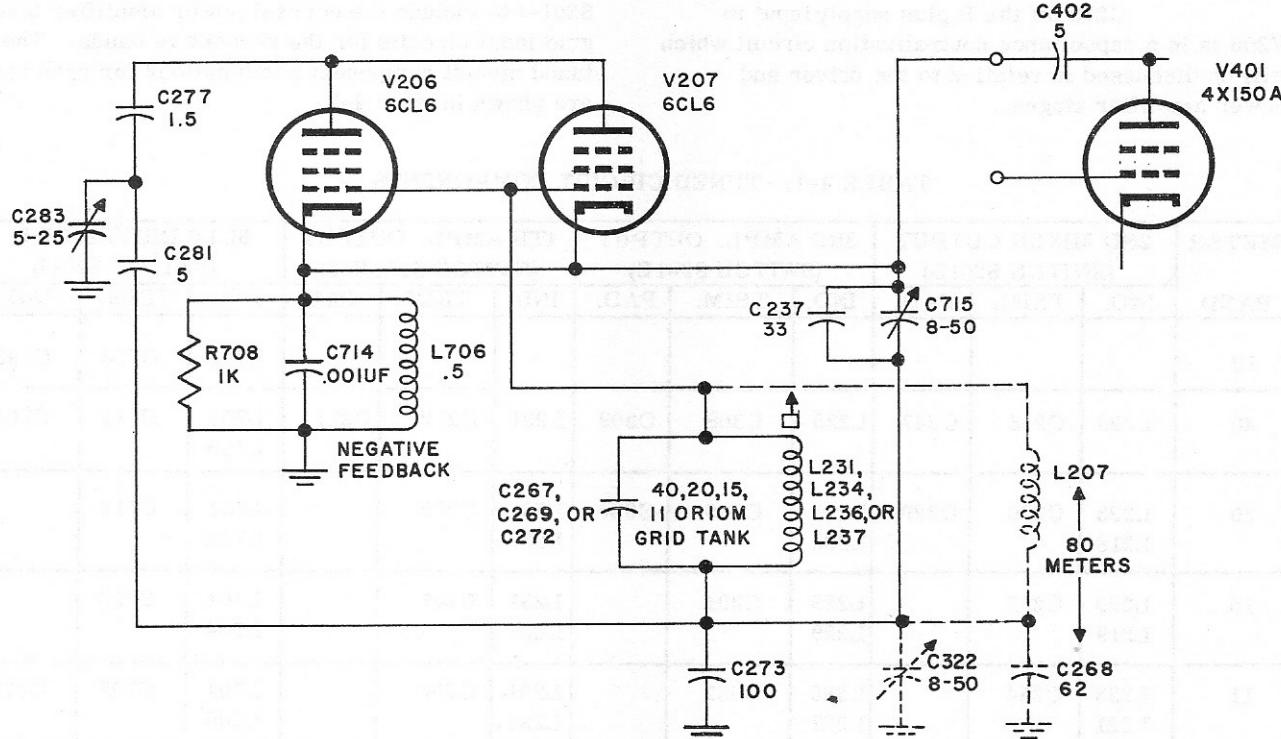
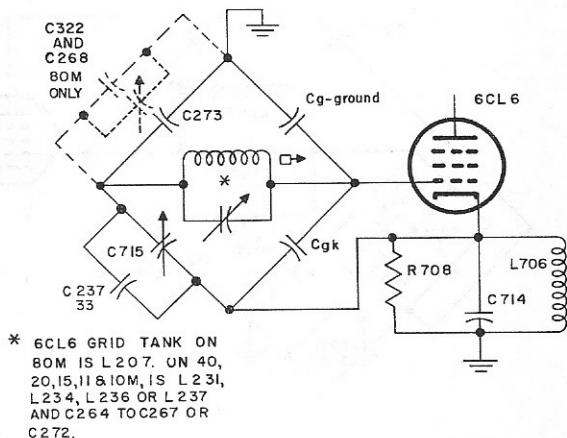

Figure 4-9. 6CL6 Driver Feedback and Grid-to-Cathode Neutralization Circuits, Simplified Schematic Diagram
Figure 4-10. 6CL6 Driver Grid-to-Cathode Neutralization Bridge Diagram
(1) NEGATIVE FEEDBACK. A portion of the power amplifier r-f output is fed back through C402 into the 6CL6 cathode circuit for the ultimate purpose of improving final amplifier stage linearity. (See figure 4-9.) At the 6CL6 cathodes, the feedback circuit consists of R708, L706 and C714. The choke, L706, provides a d-c return for the cathode. R708 loads the choke to lower the circuit "Q", preventing oscillations which could be caused by L706 resonating at the feedback frequencies. C714 forms a capacitive voltage divider with C402 off the 4X150A plate to provide the proper value of feedback voltage which produces approximately 12 db of feedback.
(a) 6CL6 GRID TO CATHODE NEUTRALIZATION. (See figures 4-9 and 4-10.) The cathode feedback voltage in the 6CL6 stages will appear on the grid tank circuits to cause stage oscillation, unless the feedback is neutralized. On the bridge diagram of figure 4-10, the feedback voltage is carried over from cathode to grid by the tube's internal grid-to-cathode (C_{GK}) capacitance. This capacitance forms a voltage divider with the
tube's grid-to-ground (C_{GG}) capacitance. The two capacitances, in series, comprise one side of the neutralization bridge. Neutralization is provided on the 40, 20, 15, 11 and 10-meter bands by condenser C715 and C273, which are in series and form a voltage divider from the 6CL6 cathode to ground. In this position, these capacitors form the other side of the neutralization bridge to balance out the undesired feedback voltage impressed across the C_{GK} and C_{GG} arms of the bridge. With the grid tank circuit across the midpoint of both bridge arms, the feedback is balanced out to eliminate this source of stage oscillations. The components of the bridge are shown on the simplified practical diagram of figure 4-9. On 80 meters only, C268 and C322 are placed in parallel to C273 to provide sufficient divider capacitance for neutralization at the 80-meter frequencies.